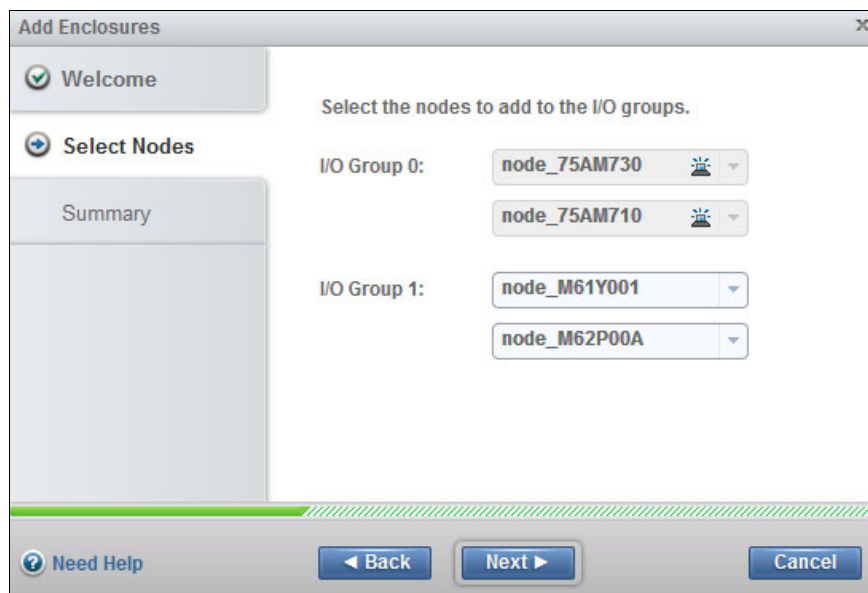

Figure 5-21 Verify node names and add enclosures
- Figure 5-21 shows the Add Enclosures wizard where the new nodes are automatically selected. Click **Next**.